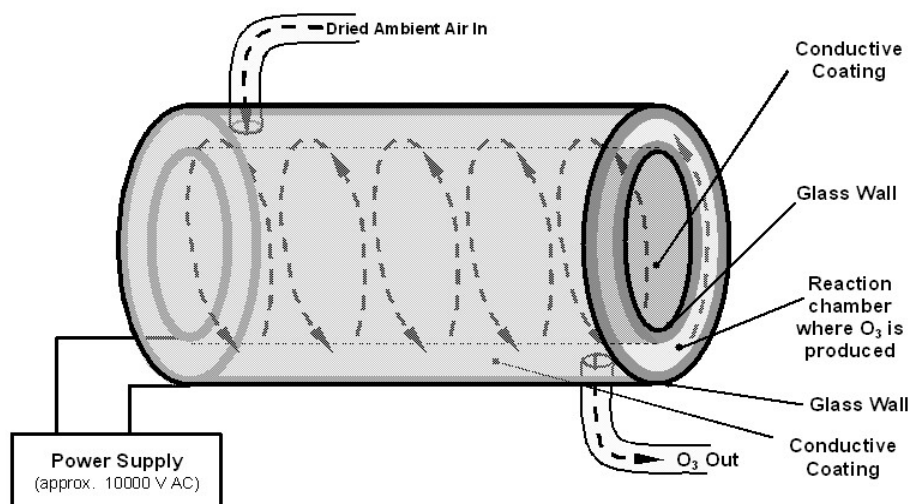

Figure 13-10: Ozone Generator Principle
The 9110T uses a dual-dielectric, Corona Discharge (CD) tube for creating its O₃, which is capable of producing high concentrations of ozone efficiently and with low excess heat (see Figure 13-10). The primary component of the generator is a glass tube with hollow walls of which the outermost and innermost surfaces are coated with electrically conductive material.